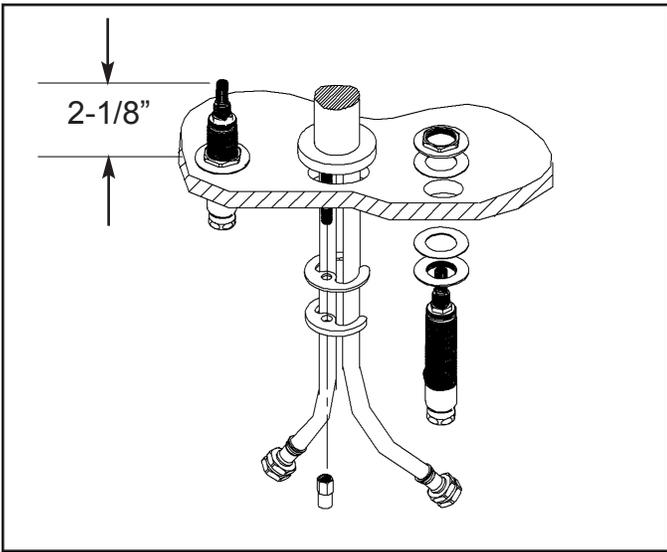

Figure 1
1. Place the spout's threaded rod and hoses through center hole of mounting surface. Secure spout into place with rubber gasket, mounting crescent and nut. See Fig. 1
2. Place nut & washer on valve body. Insert body, (blue cold & red hot), through hole in the mounting surface. Adjust and secure with additional washer and nut so that the top of valve is * 2-1/8" above the top of mounting surface. See Fig. 1